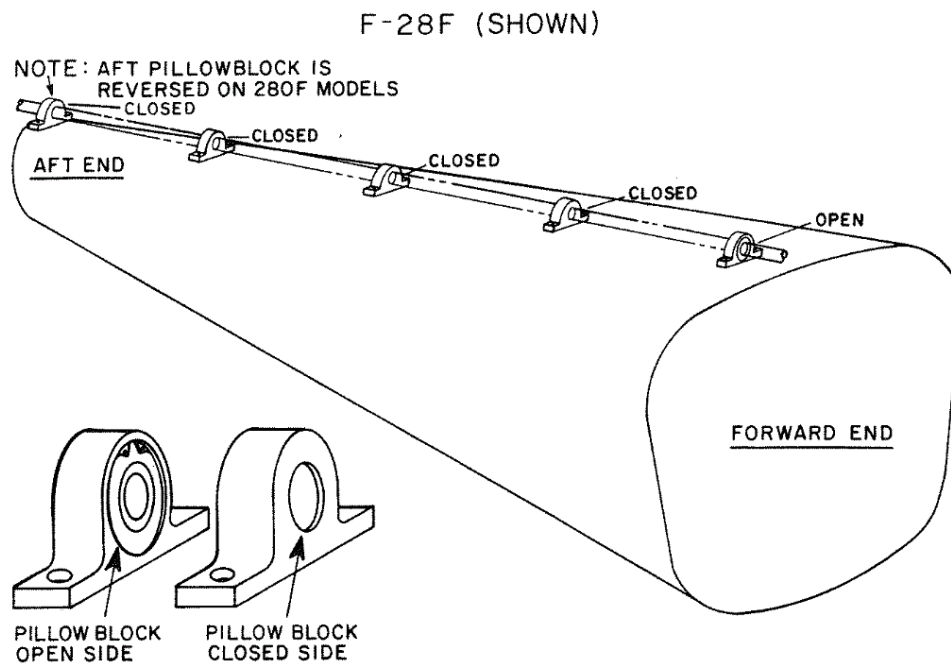

Figure 10-20. Pillow Block Orientation
- (15) Remove the driveshaft and the forward coupling.
- (16) Wipe the driveshaft with liquid detergent and slide the pillow blocks into the marked positions. See Fig. 10-20 for the direction of the pillow blocks on the driveshaft.